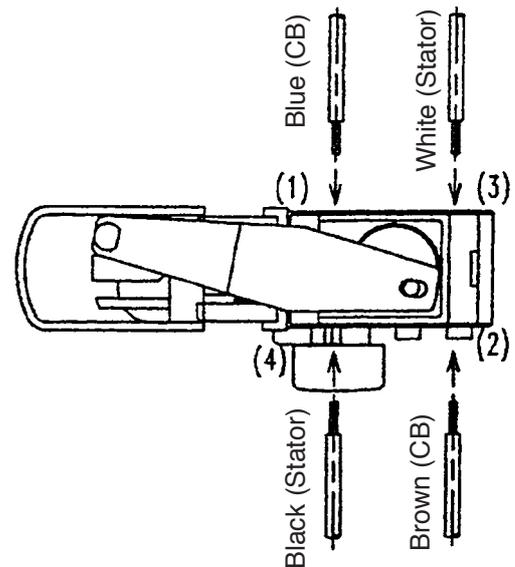

Fig. 36 Wiring of reversing switch
Insert the lead wire (black) coming from the stator into the terminal (4) of the reversing switch, and the lead wire (white) into the terminal (3) as shown in Fig. 36.